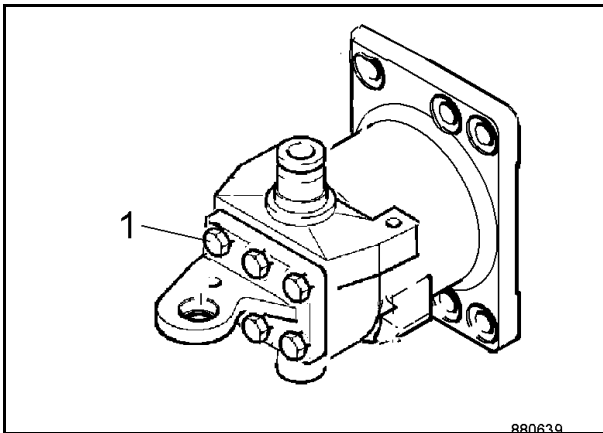

Fig. 4
5. Unscrew fastening screws 1 (Fig. 4) and remove the cylinder eye.